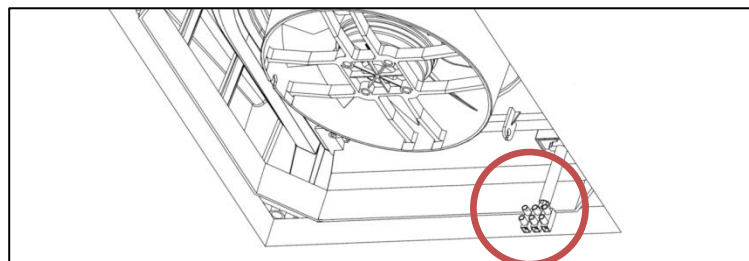

Fig 7: Highlights the position of the terminal strip underneath the unit
- Refer Fig 7 for position of terminal block